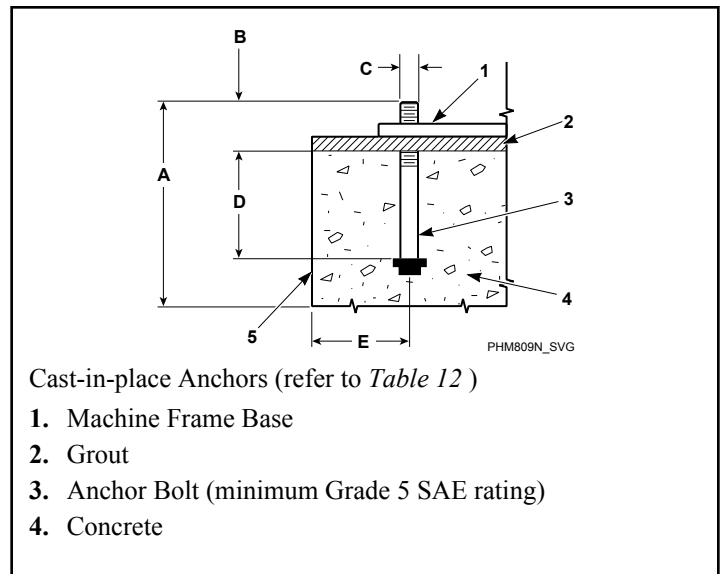
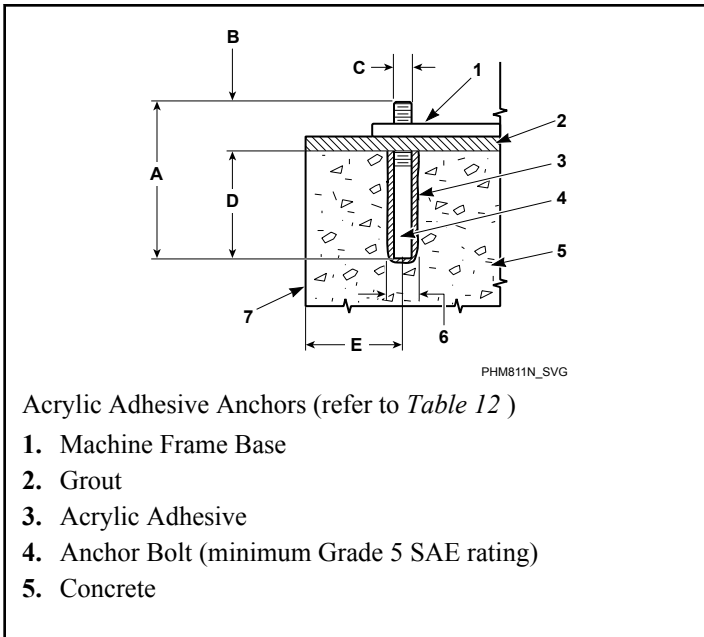

Figure 14
Figure 13
NOTE: As an alternate method, cast in the Grade 5 (minimum SAE rating), 3/4 inch [19 mm] anchor bolts as the concrete is poured, refer to *Figure 14*. Ensure that the bolt threads extend a minimum of 3 inches [64 mm] (45-65 pound models) or 6 inches [76 mm] (85-160 pound models) above floor level and a minimum of of the bolt is embedded in concrete.
NOTE: After the concrete has cured completely and the cast-in-place method was used, refer to *Figure 14* and proceed to step 7. If acrylic adhesive anchors are desired, refer to *Figure 13* and proceed with step 1 after concrete has cured completely.
1. Refer to *Figure 13* to set the drill depth gauge.